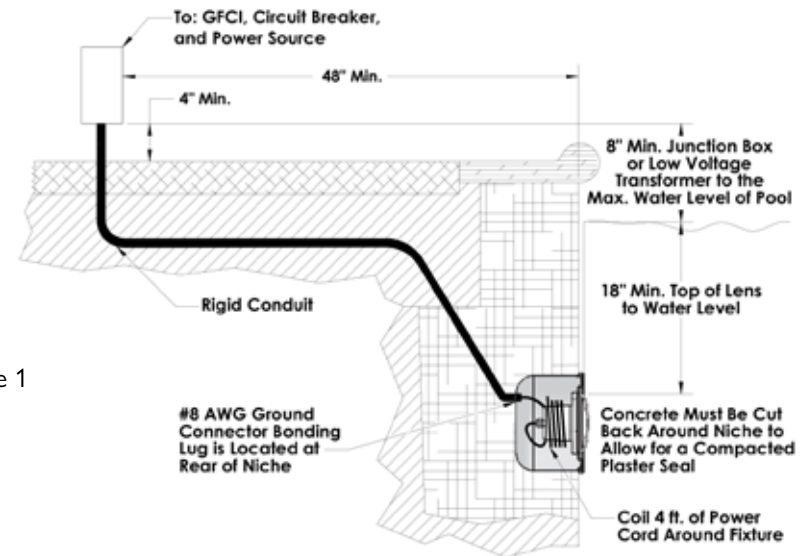

Figure 1
1. Connect these three (3) wires to their corresponding junction box circuit wires and secure the junction box cover in place.
2. Be sure to leave at least four (4) feet of cord at base of the fixture to coil around the light to ensure ease of servicing; reference Figure 1.
4. Using the stainless steel pilot screw provided, install the ColorSplash XG LED light fixture assembly into the niche, carefully tightening the pilot screw. (Reference Figure 1)